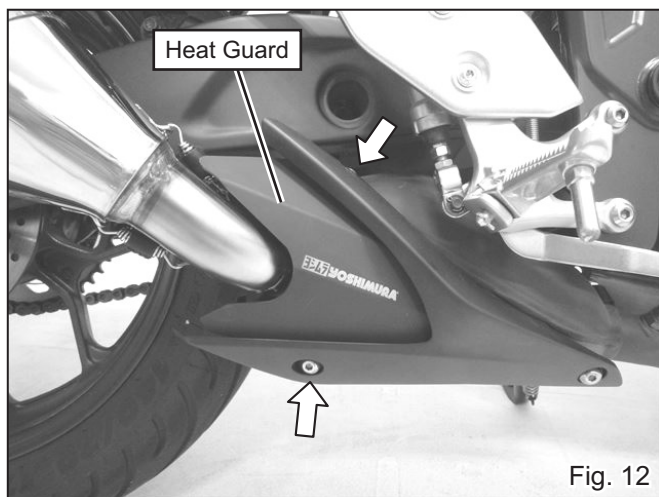

Fig. 12
- 11) Using 2 stock bolts unscrewed at step 10), set Heat Guard inside stock fairing. And, remount fairing on original place with 3 stock bolts. Tighten and torque bolts (See Fig. 12 on next page).